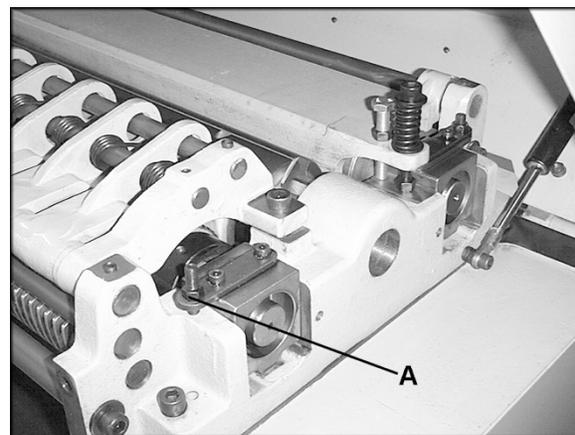

Figure 14
5. If it is not 1/16" below the knife, correct by loosening the hex nut and turning the adjustment screw (A, Figure 14) with a hex wrench.
7. Tighten hex nuts (A, Figure 14) when finished.